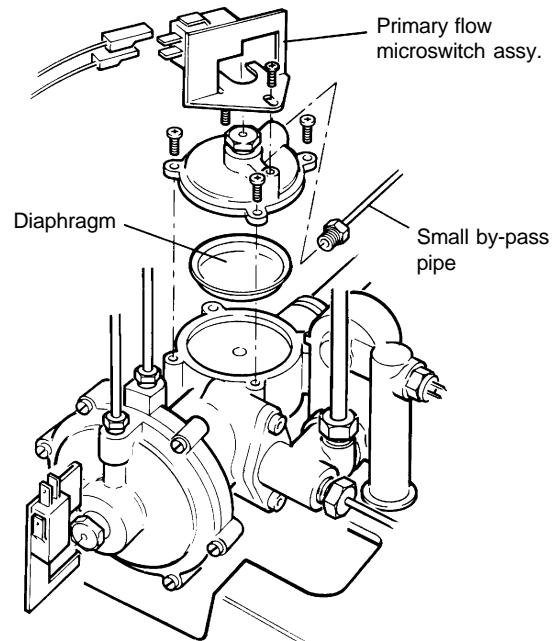

Fig. 40
8.40 PRIMARY FLOW VALVE DIAPHRAGM - Fig. 40